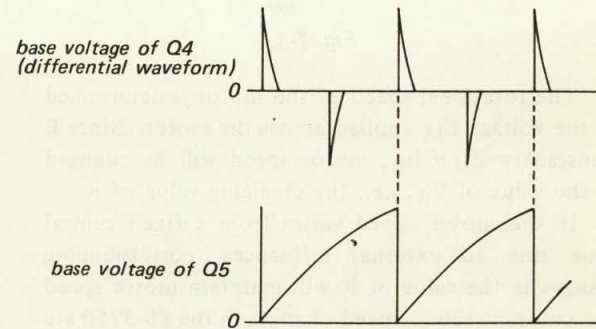

Fig. 1-3.
2. With the arrival of the non-positive part of the differential waveform, Q4 is turned OFF. Consequently, C8 charges up again in the manner shown in Fig. 1-3.